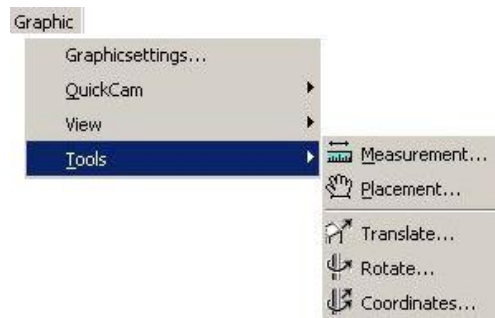

Figure 33: Tools Menu
- 1) You can call the measurement function either using the menu or the appropriate icon in the toolbar. *Please refer to the Figure 33.*